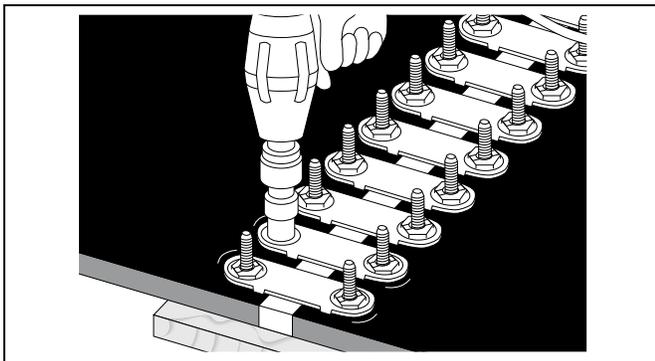

Figure 4M
- Tighten all fasteners from **EDGES to CENTER**. Tighten all nuts uniformly. The Flexco Power Tool Wrench used with an impact tool will speed this step considerably. (See Figure 4M.)